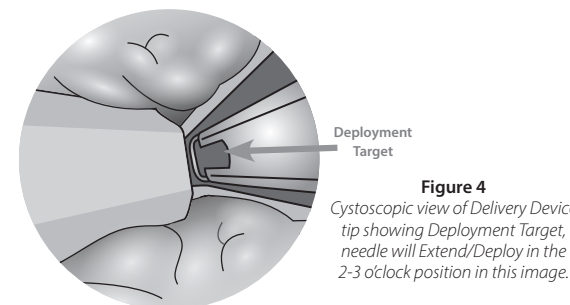

Figure 4
- 2.2.3 Position the Delivery Device such that the Deployment Target (Figure 4) is against the target prostatic lobe in the lateral direction.